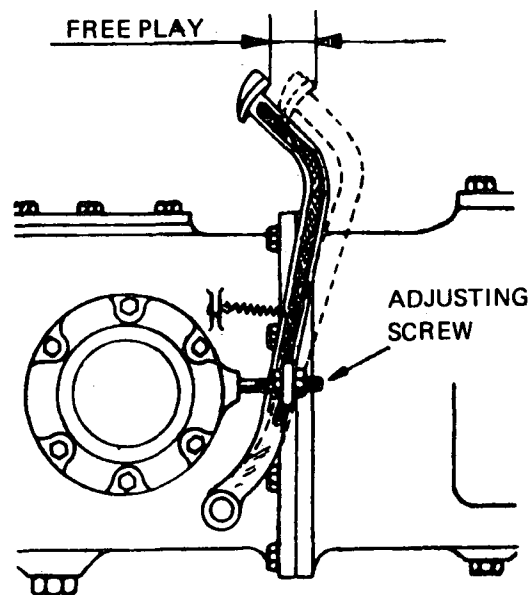

Fig. 3
- a) Turn the adjusting screw to apply tension on the brakes until the wheel is completely braked (Fig. 3).
- 1) Check the free play of the pedals. Follow specifications (Fig. 3).